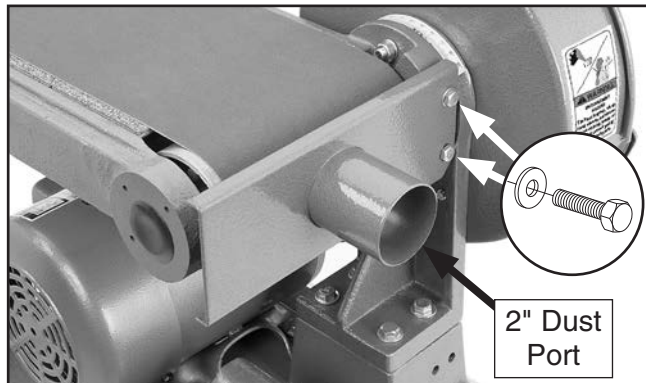

Figure 38. 2" dust port installed.
33. Install the 2" dust port onto the back of the sanding belt frame with the pre-installed 1/4"-20 x 1/2" hex bolts and 1/4" flat washers, as shown in **Figure 38**.